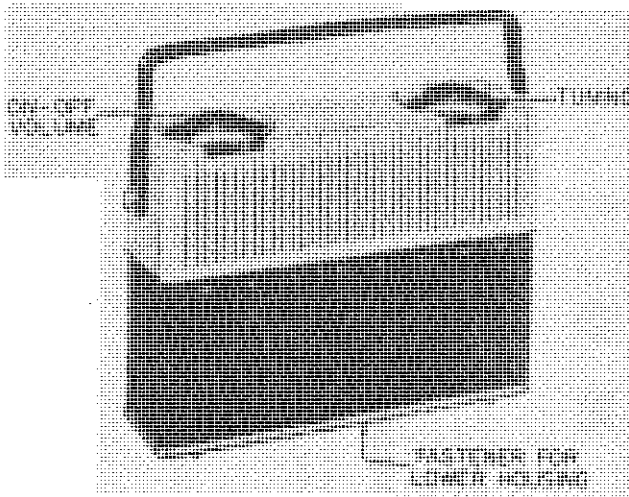

FIGURE 1. 52B1U RECEIVER
**TO REMOVE LOWER HOUSING.** Insert a large coin into the fastener on the bottom of the receiver (see Figure 1 for location), and rotate it counterclockwise until the housing is released. Then pull off the housing.
**CONTROLS.** The volume control and power switch are combined and are operated with the **VOLUME** knob (see Figure 1). Select stations with the **TUNING** knob. The markings around the **TUNING** knob can be read in kilocycles by adding one zero to the figures.